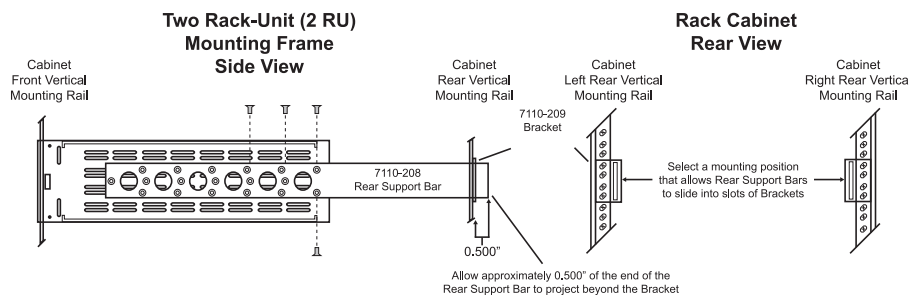

Figure 1.1 Installing the Support Brackets
The VFR-7210 mounts in the rack cabinet by means of four screws through the front mounting flanges. This should normally be sufficient to carry the load, including weight of cables. In some cases, (mobile trucks, etc.) it may be desirable to also support the rear of the frame. Rear support brackets (Ross part #FSB-7110) are available for a nominal cost. The rear support bars can be attached to the VFR-7210 in six possible positions (**Figure 1.1**).
2. Using four screws per bracket, as shown in **Figure 1.1**, attach both bars.